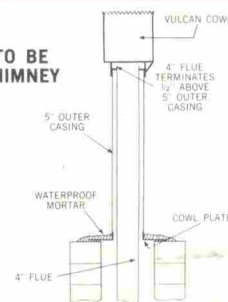

Fig. 21
11. The top of the chimney must be sealed correctly (as shown in Figure 21, Page 15).
8. Cement the cowl plate into position on top of the chimney with waterproof cement to eliminate the entry of water into the chimney. The 4" chimney flue should extend approximately 1" above the top of the cowl plate to enable this to be located correctly inside the cowl (Figure 21).
In case of the chimney being too short to allow for 14' of flue, a 5" extension piece may be placed on the cowl plate, the 4" flue extended up to the same height and the cowl fitted as above (Figure 21).